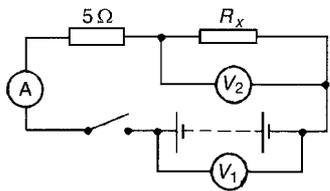

Figure 5.10
- 3 When the switch in the circuit in Fig. 5.10 is closed the reading on voltmeter 1 is 30 V